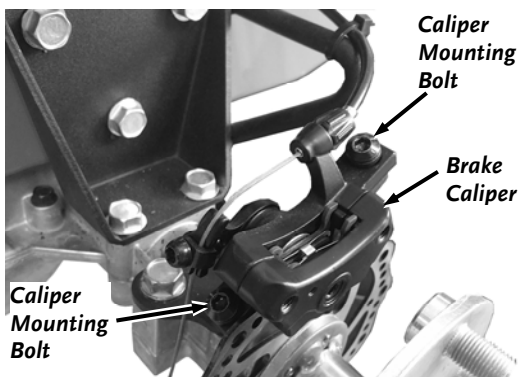

Figure 37
2. Using the 5.5mm Allen Wrench, loosen the Caliper Mounting Bolts 1 turn (**Figure 37**).